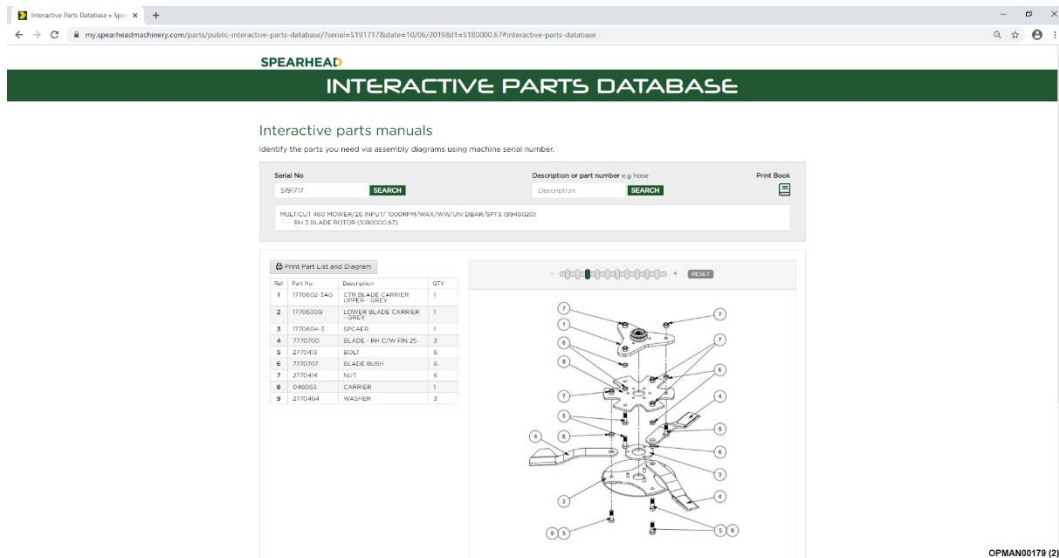

Figure 7.4 – Exploded Parts Breakdown With Bill Of Materials
- 7.1.1.4 You will finally be presented with a full exploded parts breakdown for that particular assembly, giving part numbers and the quantities required; see Figure 7.4.